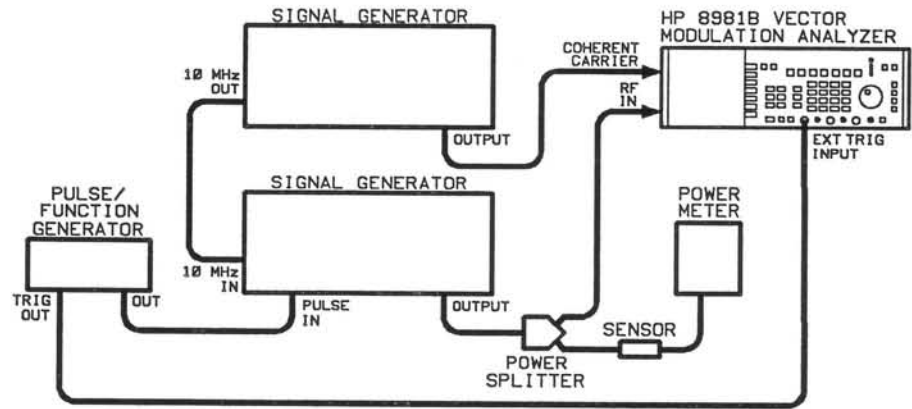

Figure 4-4. Demodulated Bandwidth/Timing Test Setup
1. Connect the equipment as shown in Figure 4-4.